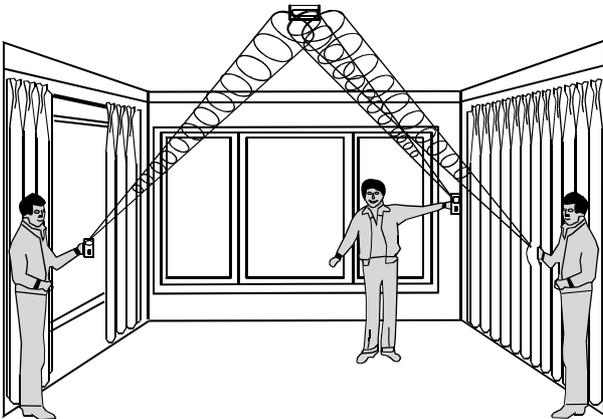

Figure 11. Testing the MCT-501, MCT-501 T
4.3 Testing the Sensor (see Figure 11).